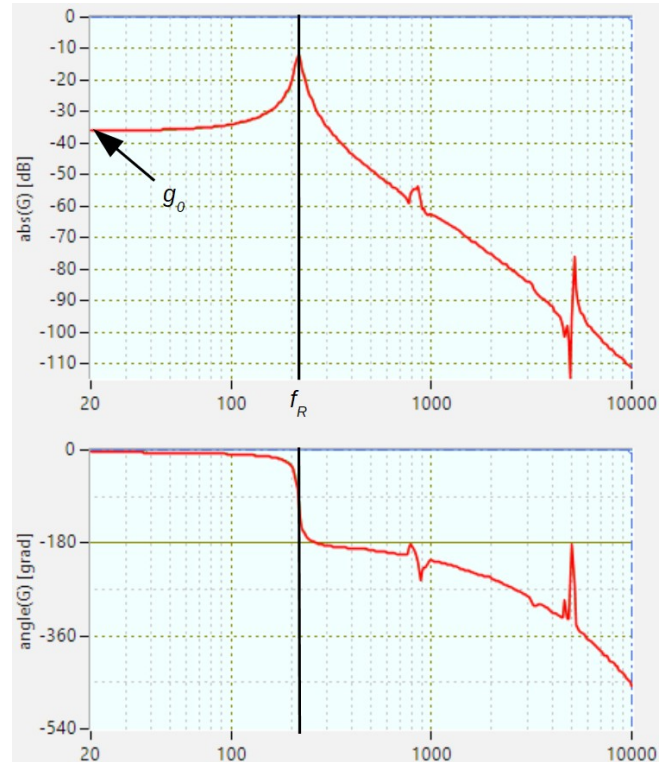

Figure 6: Typical Bode measurement of the rotational axis of a stiff gantry with a gain g_0 of -36dB and resonance frequency f_R of 218Hz.
Stiff gantries show a different characteristic for the rotational axis which resembles to a spring mass system (see Figure 6). Depending on the relation between the resonance frequency f_R and the desired bandwidth of the controller f_B , a different approach for the tuning has to be used:
- If the resonance frequency f_R is in range of the desired bandwidth f_B , the following settings according equation 4 are recommended as an initial approach. See Figure 6 for how to determine the values for the gain g_0 and resonance frequency f_R .